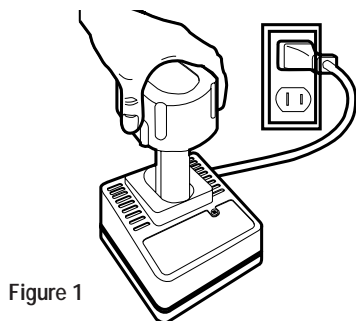

Figure 1
These chargers require no adjustment and are designed to be as easy as possible to operate. Simply place your battery pack into the receptacle of a plugged in charger (FIG.1) and it will automatically charge the pack.
2. Insert the battery pack into the charger, as shown in FIG.1, making sure the pack is fully seated in the charger. The red (charging) light will blink continuously indicating that the charging process has started.
2. Insert the battery pack into the charger, as shown in FIG. 1, making sure the pack is fully seated in the charger. The red (charging) light will blink continuously indicating that the charging process has started.